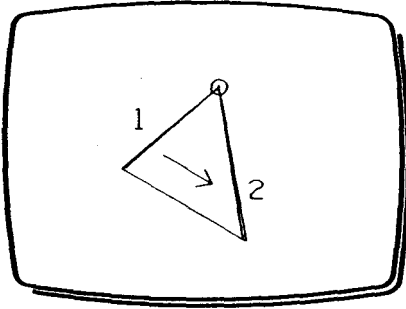

Fig 1
- 2 Draw a medium size triangle, if the triangle is too large the NIB will not fit (see Fig 1).